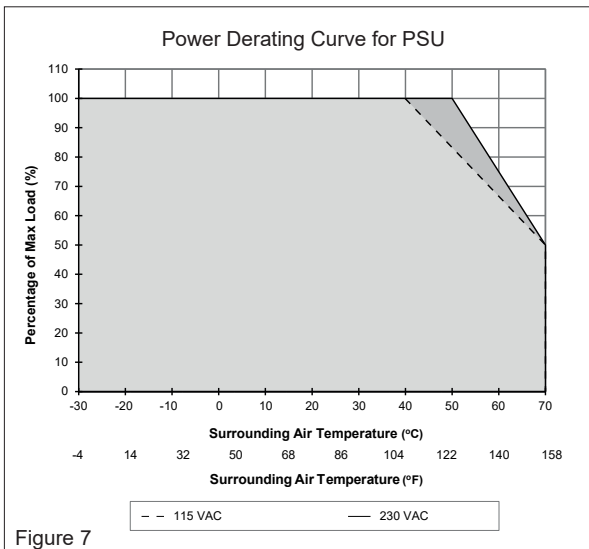

Figure 7
5.4. Thermal behavior (Fig. 7)
If the output capacity is beyond what is recommended in Fig. 7, the device will run into thermal protection by switching off i.e. the output voltage will go into latch-off mode until the component temperature cools down and the AC power is recycled.
Operating temperature (surrounding air temperature)	Refer to Fig. 7 Vertical mounting: -30°C to +70°C [-22°F to +158°F] (-40°C [-40°F] Cold Start)